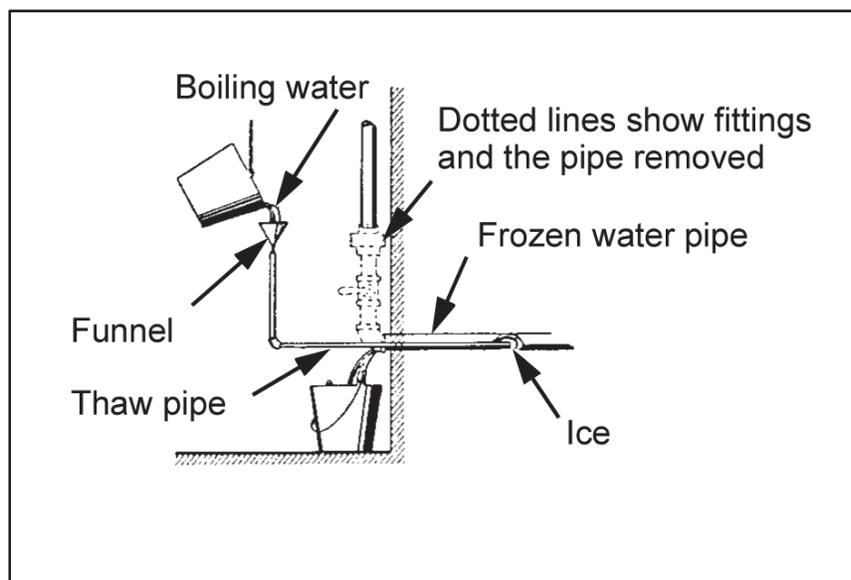

Figure 3-1. Thawing a frozen pipe
Step 2. Place a small thaw pipe or tube into the frozen pipe as shown in figure 3-1.